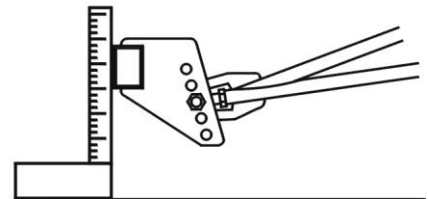

Figure 3
**Square Tube Crossmember-** Find and mark the center of the dropped section of the crossmember. Loosely bolt the crossmember brackets, through the center hole, onto both ladder bars (one bracket on each side). Snug the nuts and bolts up enough so they stay in place. Position the ladder bars and crossmember under the car to determine the mounting location and width. Using the centerline mark, the crossmember should be centered directly under the driveshaft. **SEE FIGURE 3.**